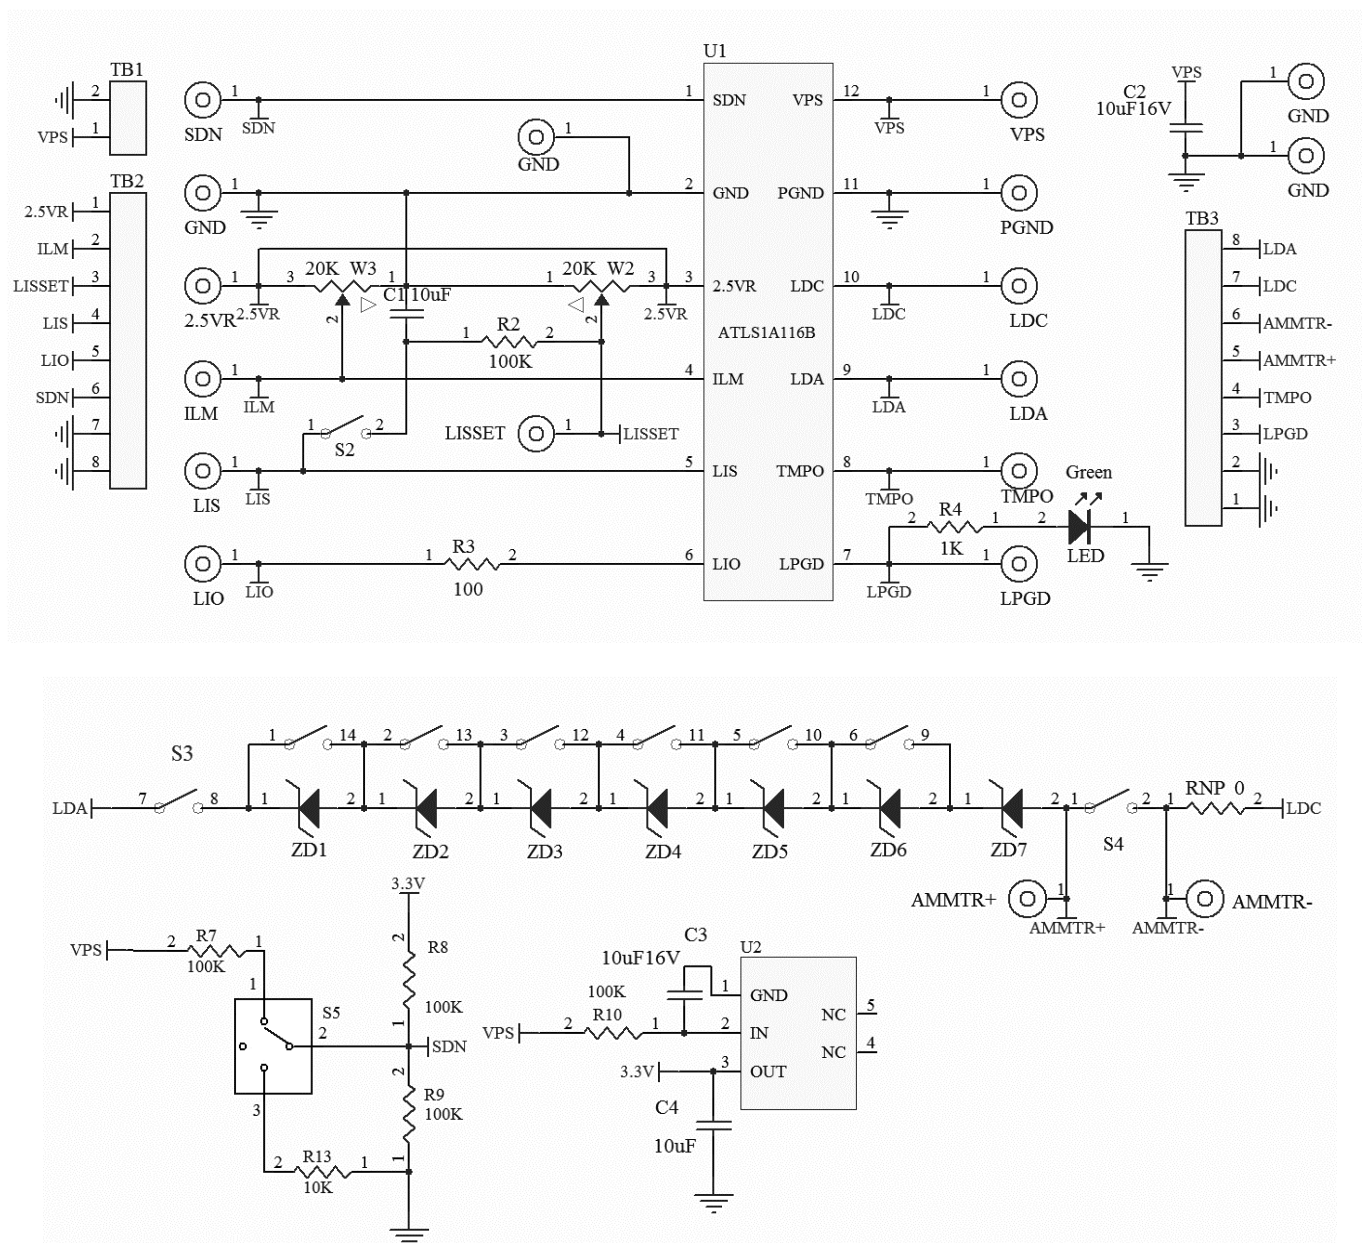

Figure 7. Schematic of ATLS100MA116DEV1.0
The schematic is shown in Figure 7 below.
- Turn the switch S4 to its upper on position, thus the output current goes through the ammeter and can be measured by reading Ammeter's value.; when the switch S4 is placed in the lower off position, the ampere meter is shorted, thus, it does not measure the output current, see the schematic shown in Figure 7.
6. Test the controller with the “dummy laser”. The 5 diodes on the board, D1 to D7, can form a “dummy laser” to act as the laser diode in the place of a real laser so that in case there is a problem in the circuit, the expensive laser would not be damaged, see schematic in Figure 7. Turn the switch S3 to the on position (upper), to connect the “dummy laser” to the controller. Turning switches ZD1, ZD2, ZD3, ZD4, ZD5, and ZD6, up and down will increase (turning down the switches) and decrease (turning up the switches) the forward voltage of the “dummy laser” which can be measured by a volt meter between the LDA and the ground. Each diode can increase or decrease the output forward voltage by about 0.7V when the output current is 100mA. The switch bank and their corresponding diodes are shown in the table 2 below. The diode ZD7 is always activated so that the total forward voltage range is from 0.7V to 0.7V + 0.7×6 = 4.9V. Please be aware of this fact: when the output voltage is low by shorting circuit all the diodes, the controller will need to consume a lot of power and may get too hot that the internal temperature protection circuit shut off the controller automatically. When this happens, wait for a few seconds, let the controller cool down, the controller will restart by itself again after the temperature is lowered to certain level. This is the way to calculate the